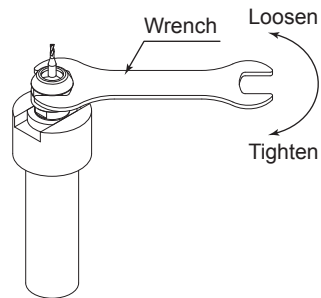

Fig. 12
- (4) Insert the tool into the collet and set the wrench on the collet holder. Set the wrench on the collet nut, and tighten the collet nut by turning clockwise (Fig. 12).